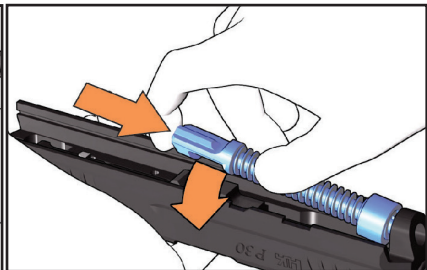

Figure 23 — Removing the recoil spring
8. Turn the slide upside down and carefully push the recoil spring forward, up, and out to either the left or right side, separating the recoil spring from the barrel and slide (see Figure 23).